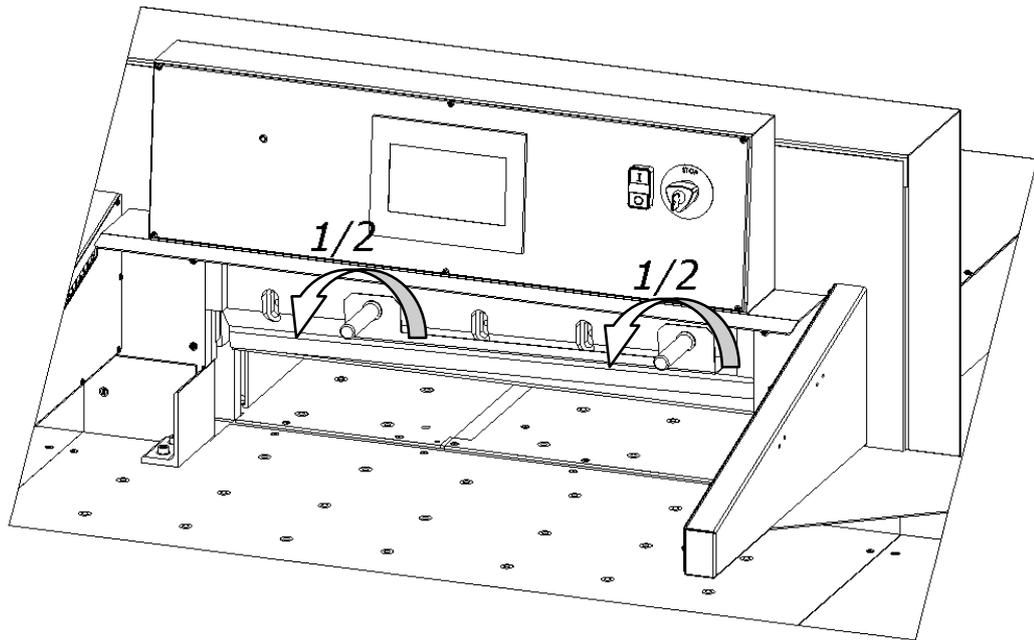
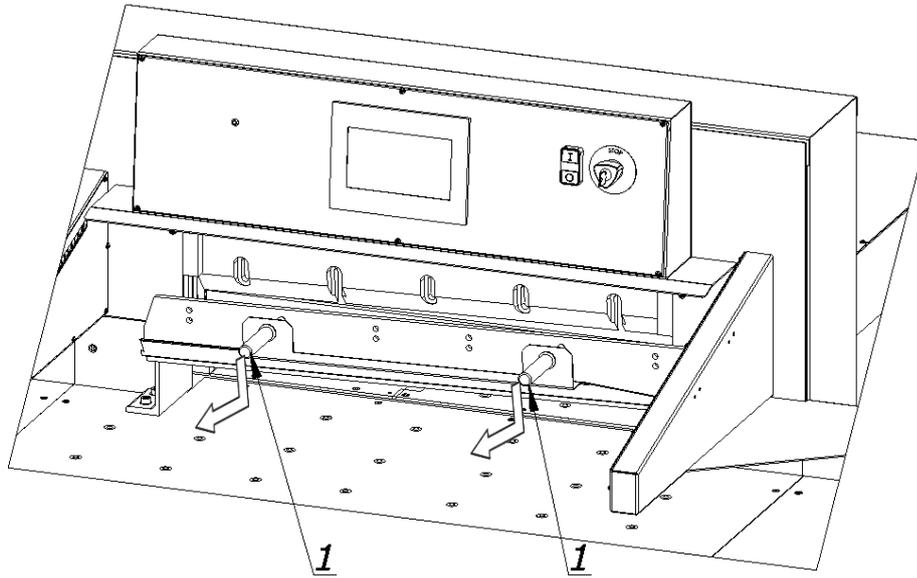
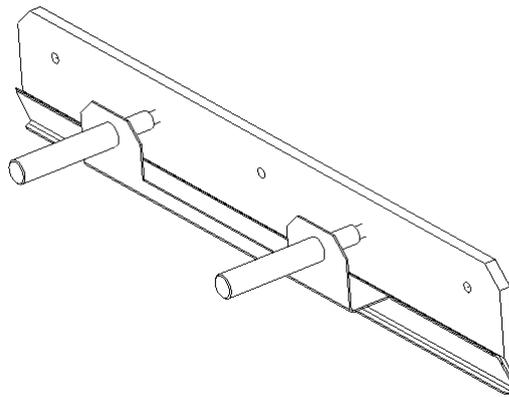

Figure 27.
Figure 28.
Figure. 29a. Knife in the transport handle
8.1.1.12 holding the transport handles release the clamp by turning them 1/2 turn at a time to the left (fig. 27) and carefully pull the knife down (fig. 28). Take the removed knife into the special protective packaging (Fig. 29a - 29d.) With the blade inwards and fasten it with two screws. Use the Allen key 8 wrench provided to unscrew the bolts that fix the knife to the cutter bar.
8.1.2.2. Remove the knife from the packaging (Figs. 29a to 29d)